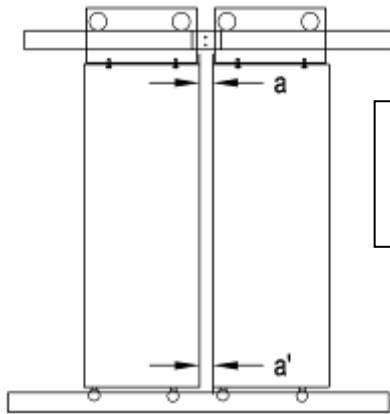

Figure 2-15 Front view of the car door configuration
3. The clearance between door leafs are less than 2 mm (i.e. $a, a' \leq 2\text{mm}$). Besides, the clearances on the upper part and the lower part should be uniform (i.e. $a'-a \leq 0.5\text{mm}$). See Figure 2-15 Front view of the car door configuration